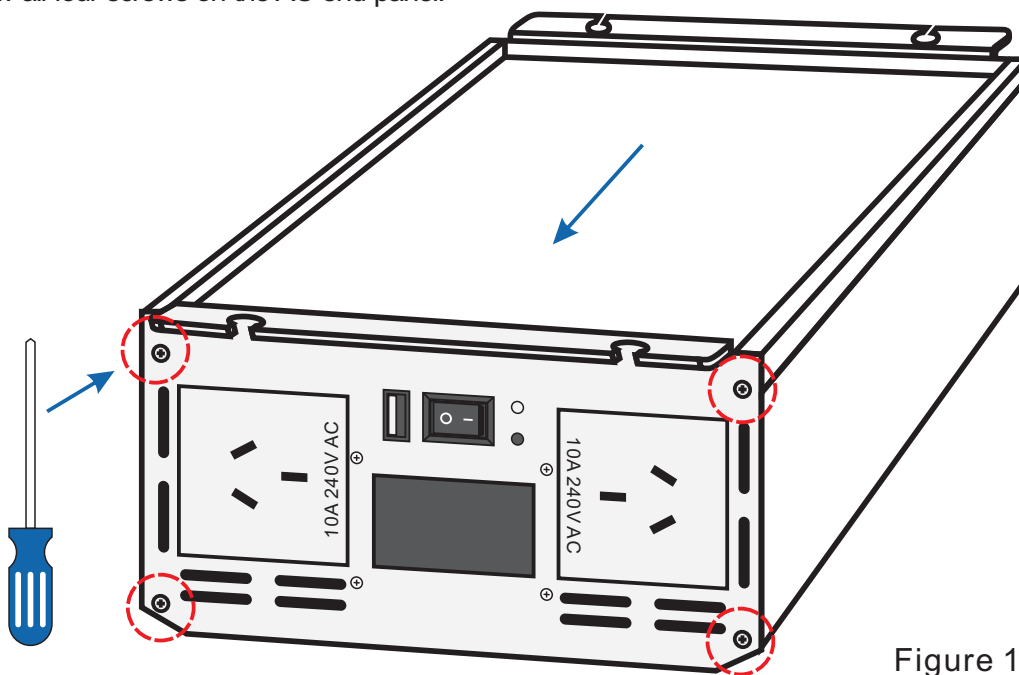

Figure 1.
3. Remove all four screws on the AC end panel and push the power switch in the “O” position (see Figure 1.).
4. Slide out the bottom plate to the direction of the AC end panel (see Figure 1.).